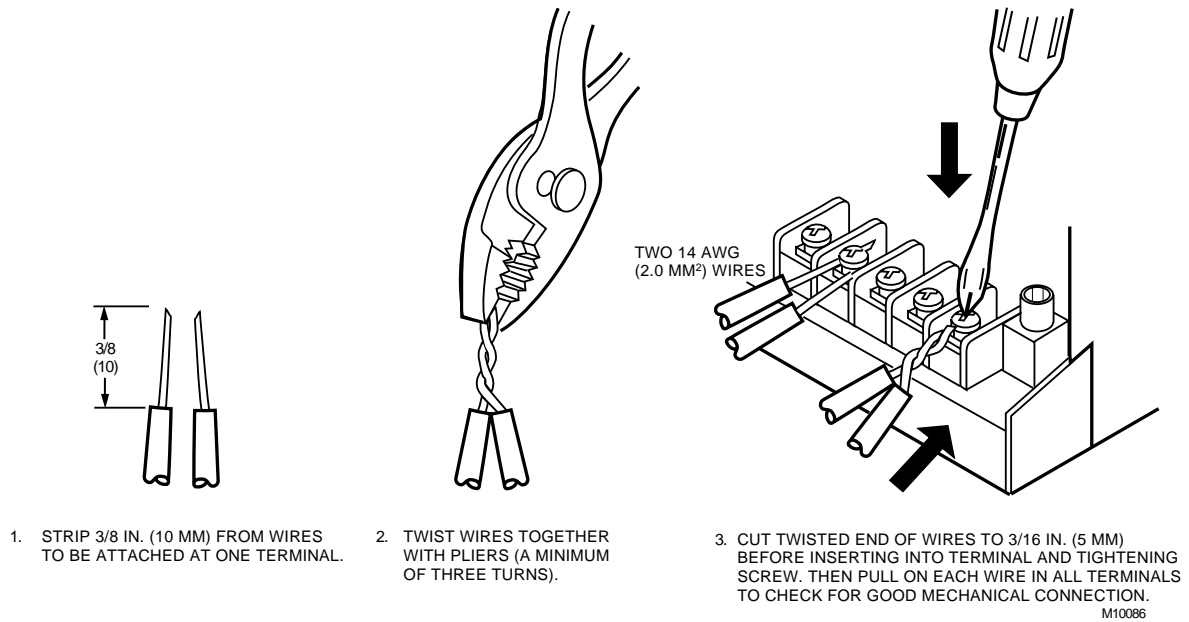

Fig. 15. Attaching two or more wires at terminal blocks.
**NOTE:** For field wiring, when two or more wires are to be attached to the same connector block terminal, be sure to twist them together. Deviation from this rule can result in improper electrical contact. See Fig. 15.
(For note 2, refer to Fig. 15.)